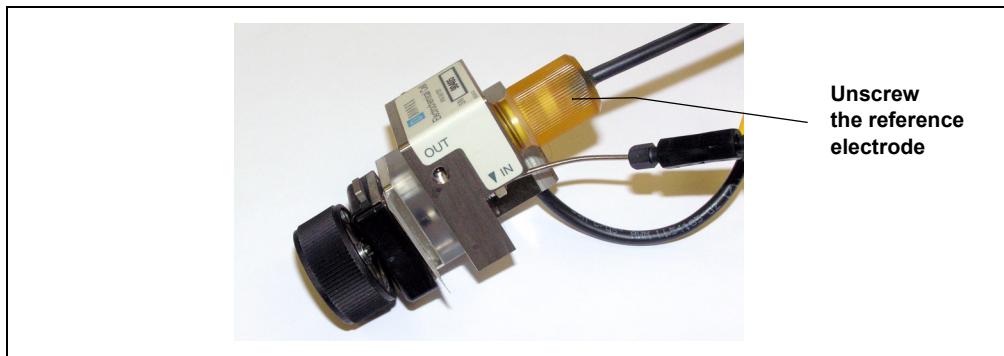

Figure 9-36. Removing the Reference Electrode
4. Unscrew the reference electrode and remove it from the cell body (see Figure 9-36).